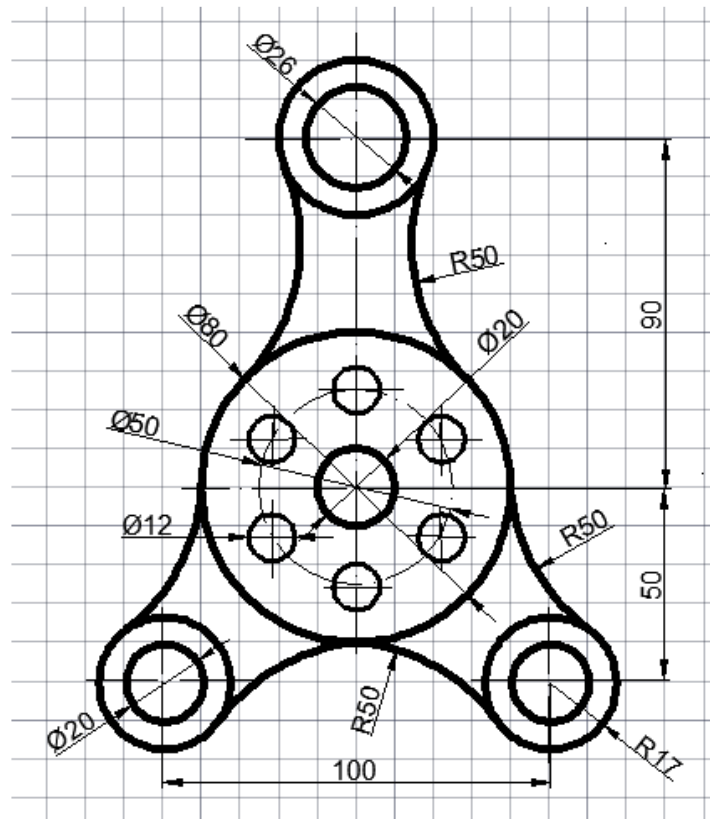

Figure 4.6 – Inserted dimensions of the part
4.2.7 Delete construction lines using the Erase command from the Modify panel. And then draw the centerlines, having previously loaded them into the "Line Palette". You will need to select the centerline of the ACAD_ISO04W100 type. Set the weight of the main lines to 0.5 mm and the centerline to 0.25 mm. Then, in the "Annotation" panel, select the "Size" element and put down all the necessary dimensions in the drawing (figure 4.6).